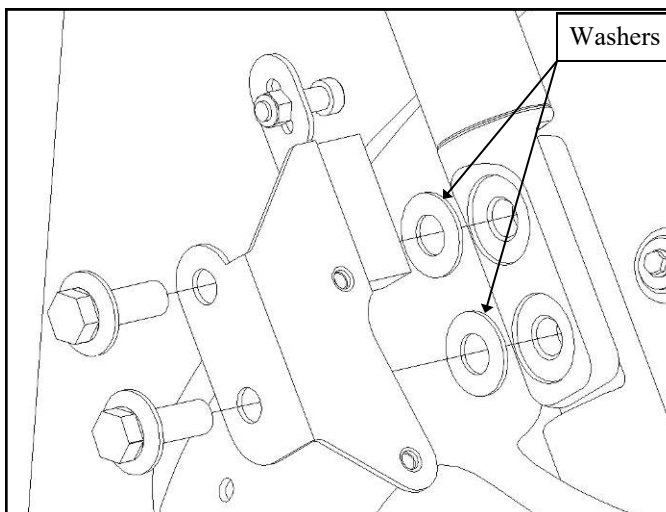

Figure 2.1 View of passenger's side front
2.1 Using a 19mm socket, remove and save the two front bolts that fasten the roll cage. Install the front mounts according to Figure 2.1. Be sure to install the flat washers in between the front mount and the roll cage. The foam should seal tight against the vehicle hood.